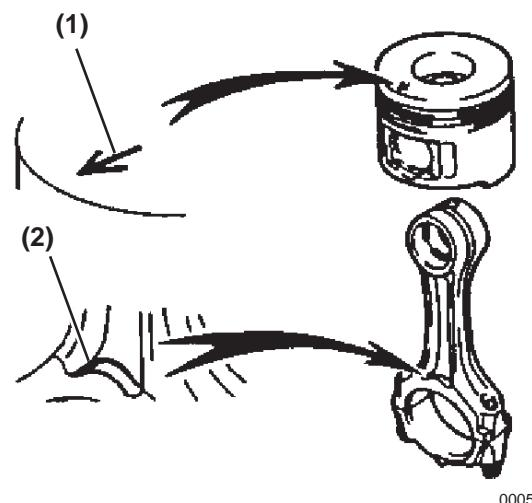

Figure 5-134
4. Align the marks of the piston and connecting rod and press the piston pin in by hand (Figure 5-134).